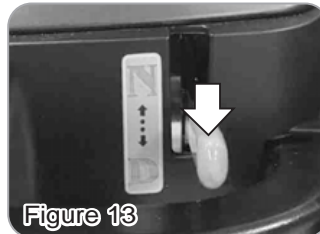

Figure 13
- When lever is in Drive (D) position, the scooter can be driven. Normal position is in D (Figure 13)